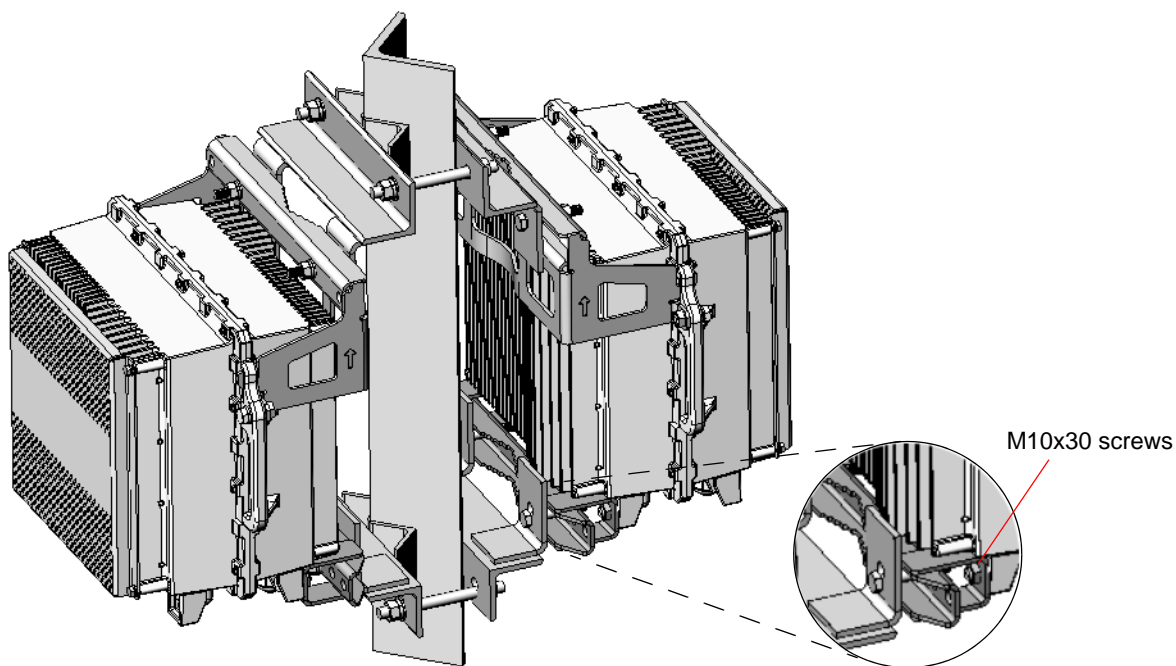

Figure 29: Two ODUs Assembled on an L-shape Mast
- 6 Thread the other two threaded rods through both lower brackets. Tighten using the supplied washers, spring washers and nuts (Figure 29).